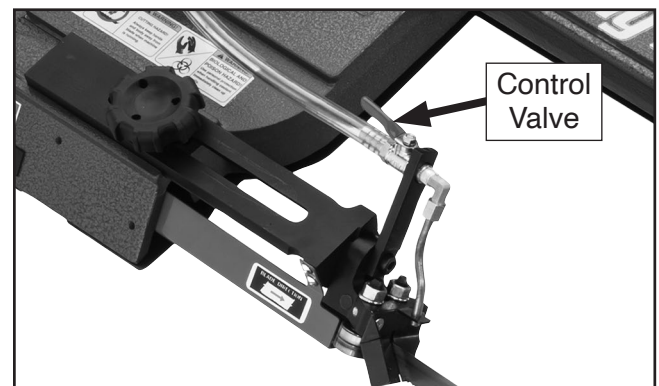

Figure 66. Location of cutting fluid control valve.
5. Adjust cutting fluid flow at control valve (see **Figure 66**). Make sure pressure is not so high that it creates a slip hazard.